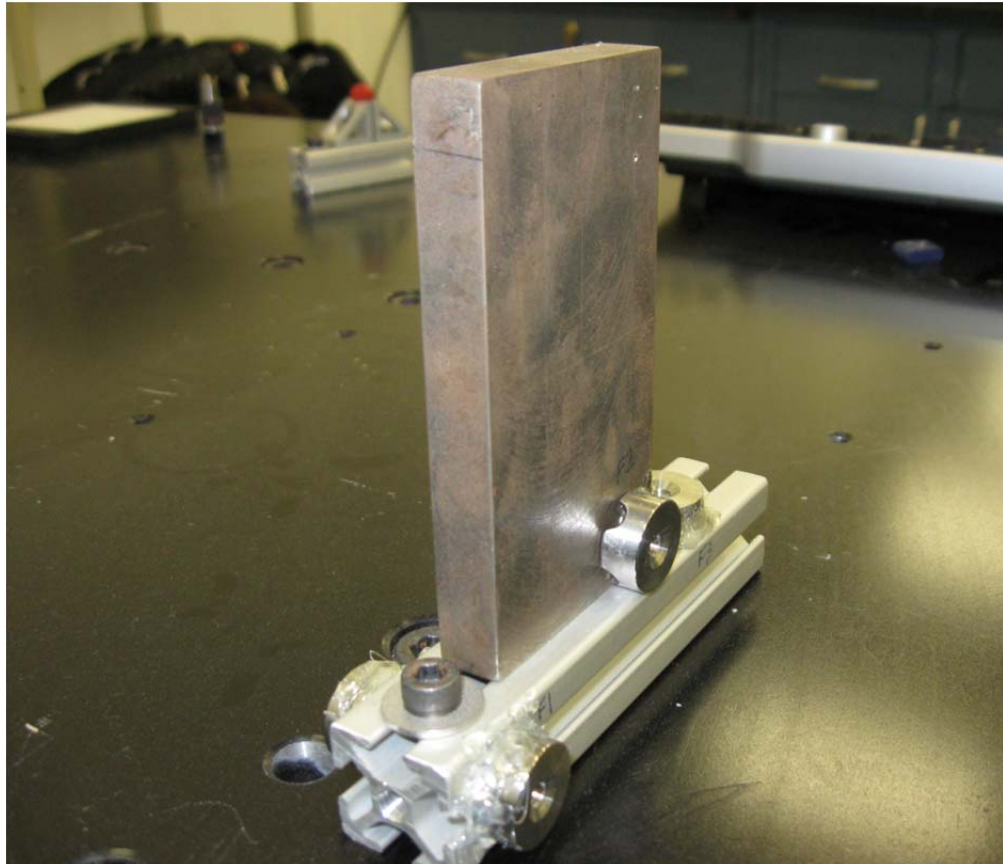

Figure B-3. Sample Mounted to Indexer Table
3. Mount Sample to indexer table (Figure B-3) and power on the indexer table via the switch box on the wall by the large monitor.